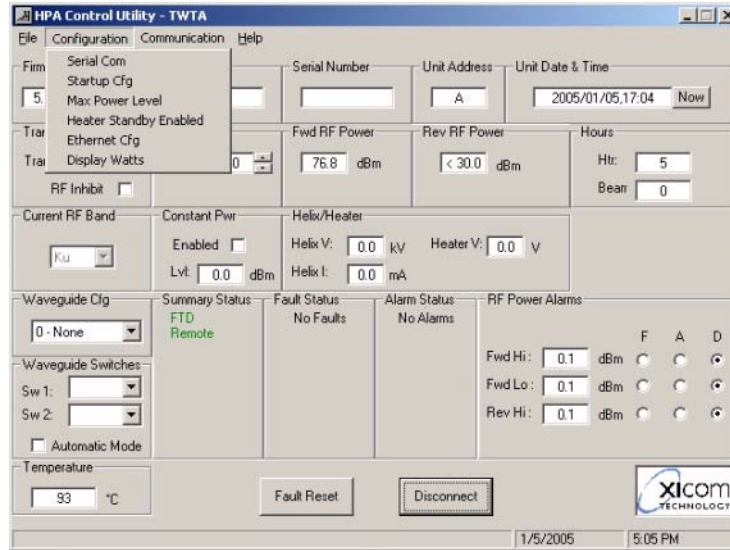

Figure 6, Configuration Menu
4. Refer to Figure 6 on page 9. The Amplifier Configuration menu allows the configuration of the amplifier's COM ports, the startup configuration, the Maximum power level, Heater standby operation, Ethernet configuration, and the types of power units used for Forward Power, Reverse Power, and the RF Power Alarms.